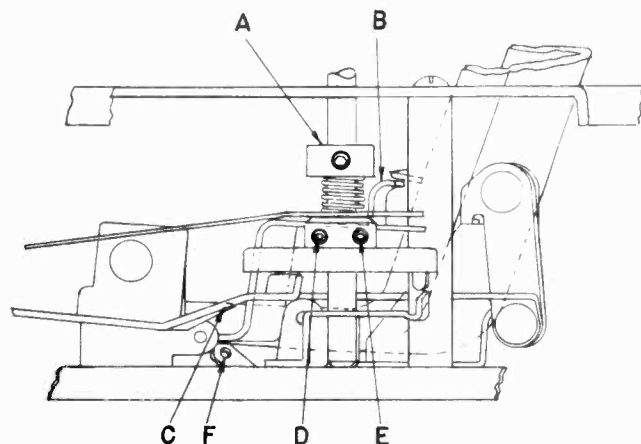

Fig. 6. Adjustment Points
Should it become necessary to clean the clutch, loosen the *lock* (A), see Fig. 6, to relieve the spring tension, and clean the clutch parts with carbon tetrachloride. Reset the clutch spring tension by setting the lock at least $\frac{1}{4}$ inch below the main plate. This tension should be sufficient to operate the trip mechanism without placing undue drag on the movement of the *pickup arm*.
B. AUTOMATIC LOCK LEVER—This *lever* (48) should move up and down freely with no record on spindle. Hook end of the *automatic shut-off lock lever* (point B, Fig. 6) should catch *pickup arm raising disc* (31) at the beginning of cycle, to prevent travel of the arm and to cause it to drop on the "OFF" button. With no records on the spindle, this hook should clear the *pickup arm raising disc* by $\frac{1}{32}$ inch with the mechanism at rest. Bend lip (point F, Fig. 6) if necessary to make clearance correct.
C. VELOCITY TRIP—At the completion of the change of cycle, the *actuating pawl* is engaged by the hook end of the *velocity trip and roller assembly* (47) which has been returned to its normal position by the reset points on the *main cam drive gear* (45). This hook should be adjusted for about .005-.015 inch clearance from the bottom of the *main cam drive gear* (45). Greater clearance may permit the pawl to bounce past
Should further adjustment be necessary, proceed as follows: Operate the mechanism by revolving the turntable manually until the stylus drops to within $\frac{1}{8}$ inch of a 10-inch record on the turntable. With a No. 8 Bristol wrench in each of the set screws (points D and E, Fig. 6), alternately loosen one and tighten the other until the stylus rests above the records lead-in groove at the desired point.
E. PICKUP ARM LIFT—The stylus should approach the top record of a full stack on the turntable with approximately $\frac{1}{8}$ -inch clearance. Adjust by bending the *pickup arm raising lever* (38) at point C, see Fig. 6. Do not attempt to move *pickup arm raising disc* up or down.
F. RECORD DROP ADJUSTMENT—The distance between the *selector arm* (61) and the *spindle* is critical and should be adjusted as accurately as possible. If this distance is too great, records of minimum diameter will not be pushed off the spindle step during the change of cycle. If it is too short, records of maximum diameter will either lie over the tips of the *selector lever* (61) (resulting in no record drop and improper index) or be pushed against the spindle with undue force, causing center hole damage.